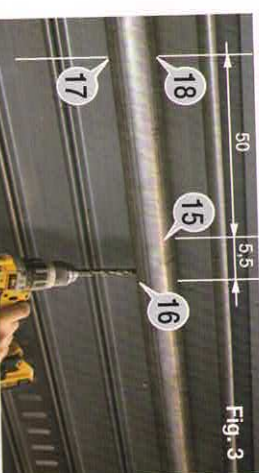

Fig. 3
- Fasten the M10 screw "36" using the spanner "7" and make sure it enters into the rolling shutter support shaft through the 10,5 mm hole "16" (drilled in fig. 3).
- Pass the power cable "44" through the hole "17" fig. 3 avoiding any contact with mechanical moving parts until it exits to the left or right of the shutter support shaft.